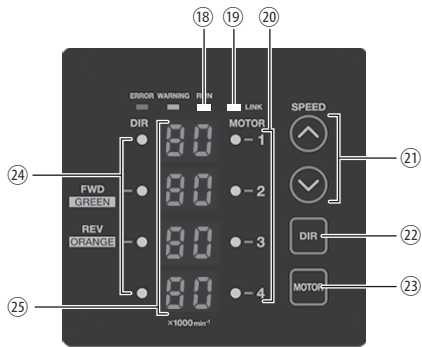

Fig. 22 SELECTOR Control Panel
- (1) Set Motor Selection (Set the Motor Selection Button (MOTOR) ②③ of the Fig. 22 SELECTOR Control Panel.)
- (2) Set Motor Rotating Direction (Set the Rotation Direction Button (DIR) ②② of the Fig. 22 SELECTOR Control Panel.)
- (3) Set 500 min⁻¹ Centering Rotation
(Set the Motor Speed Adjustment Button (SPEED ⬆️ , ⬇️) ②① of the Fig. 22 SELECTOR Control Panel.)
- (5) Setting Motor Speed (Set the Speed Adjustment Button (SPEED ⬆️ , ⬇️) ②① of the Fig. 22 SELECTOR Control Panel)
(5) Setting the Motor Speed
Setting parameter (P2), allows the Motor Speed to be adjusted in Auto Mode using the Motor Speed Adjustment Button ⑪ of the Fig .22.